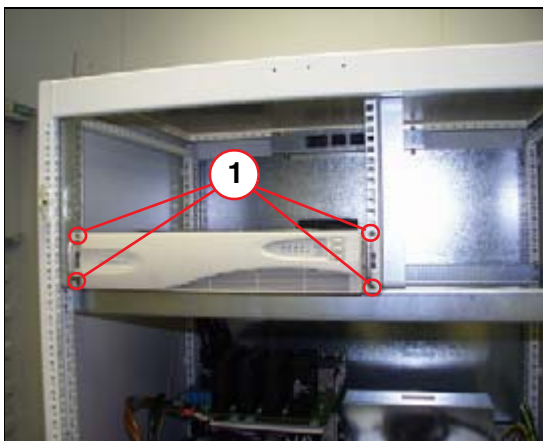

Fig. 1: UPS- uninterruptible power supply
- Remove the four mounting screws (1/Fig. 1 / p. 47).
- Secure the UPS with four Allen screws(1/Fig. 1 / p. 47).